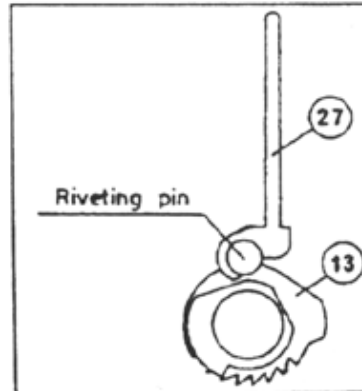
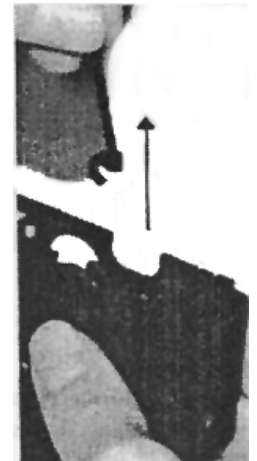

Figure 10
Figure 11
- With *compression rod* (#27) straight up, (Fig. 10) unhook *compression rod* from *counting wheel* (Fig. 11)